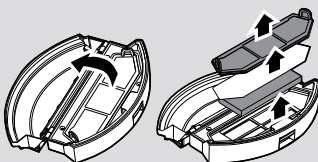

Fig. 19
3. Remove all filter components and clean them separately. The assembly is done in reverse order. [Fig. 19]